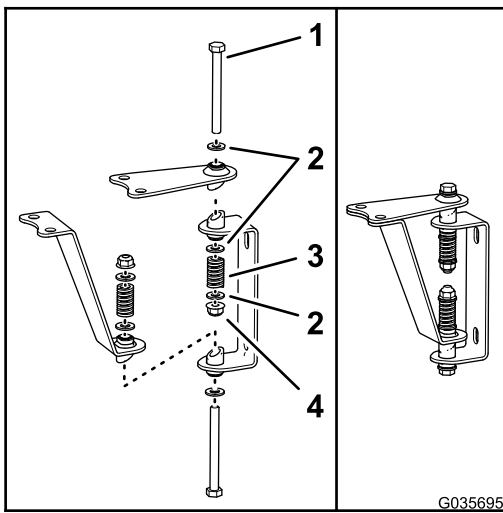
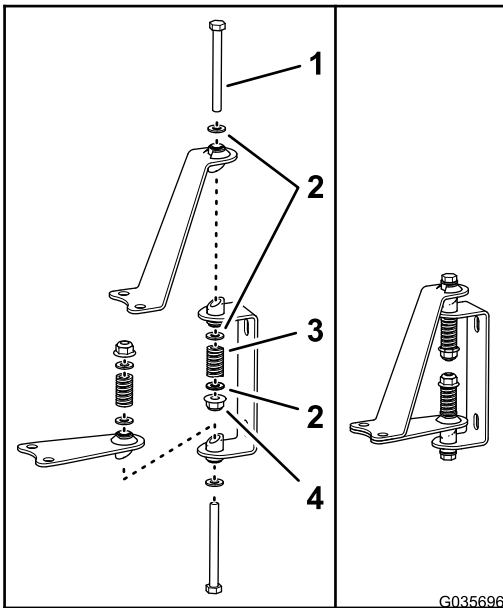

Figure 4
Figure 5
4. Insert the bolts through the hinged welded tube openings, hinges, and straps as shown in Figure 4 or Figure 5.
5. Install a flat washer on the exposed end of each of the bolts (Figure 4 or Figure 5).
6. Install a spring on the end of each bolt (Figure 4 or Figure 5).
7. Install a flat washer and a locknut on the end of each bolt (Figure 4 or Figure 5), and tighten the locknuts until there is no slack in the spring.